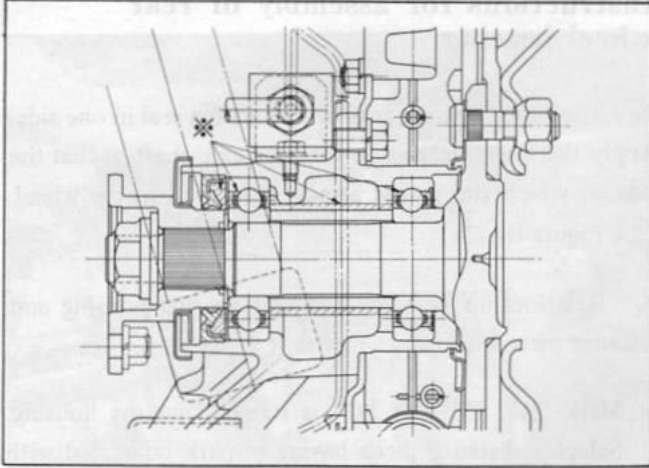

Fig. RA-25 Lubrication chart of rear axle
1. The outer bearing is provided with a seal in one side. Apply the outer bearing to the rear axle shaft so that the side to which the seal is attached is faced to the wheel. (See Figure RA-25)
Fill the portions indicated by asterisk (*) in Figure RA-25